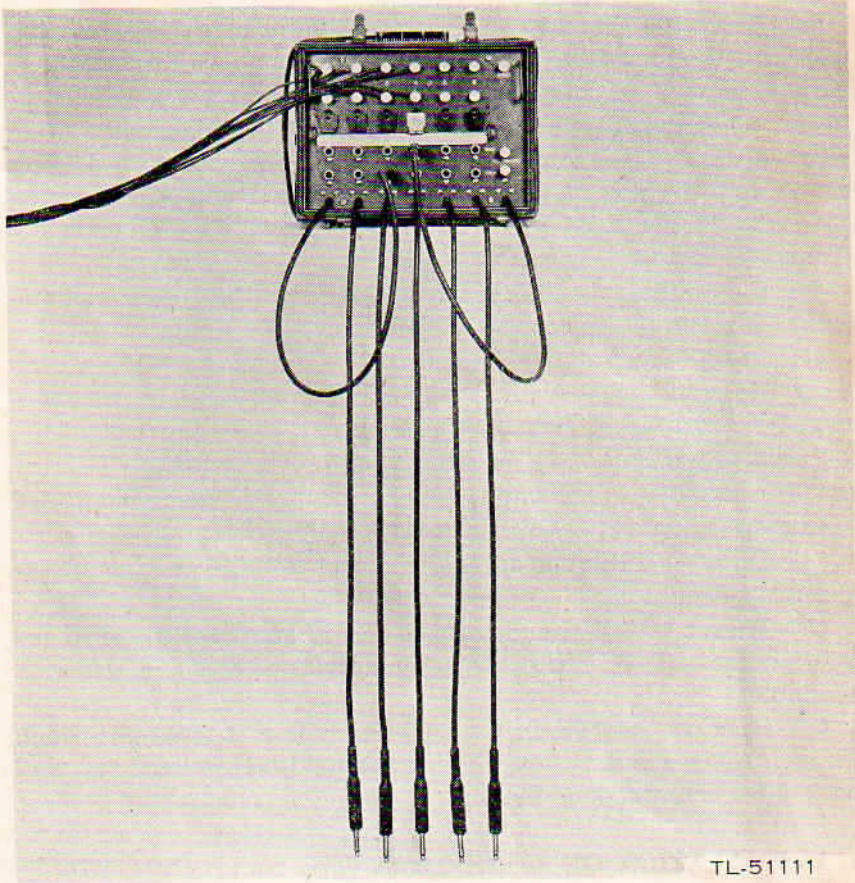

Figure 4. Switchboard SB-5/PT, Prepared for operation.
a. Bring the outside lines into the switchboards from either side so that they will pass underneath the loops. Connect the two wires from each line to the two terminal Binding Posts TM-216 above and below the number assigned to that line (fig. 4). Wire ends should be stripped, since Binding Posts TM-216 are not of the insulation-piercing type.